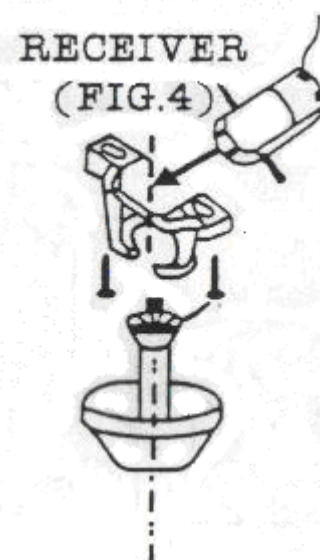

Fig. 4
7. Connect **TO MOTOR N** of control unit wire to the **COM (N)** fan wire.
8. Connect **TO MOTOR L** of control unit wire to the **MOTOR (L)** fan wire.
12. Lay the control unit in the CANOPY. (See Fig. 4).
NOTE: This remote/controller is only suitable where the controller/receiver can be inserted inside the canopy cover safely and securely. Ceiling fan with mount bracket type shown in Fig. 4 would be suitable.